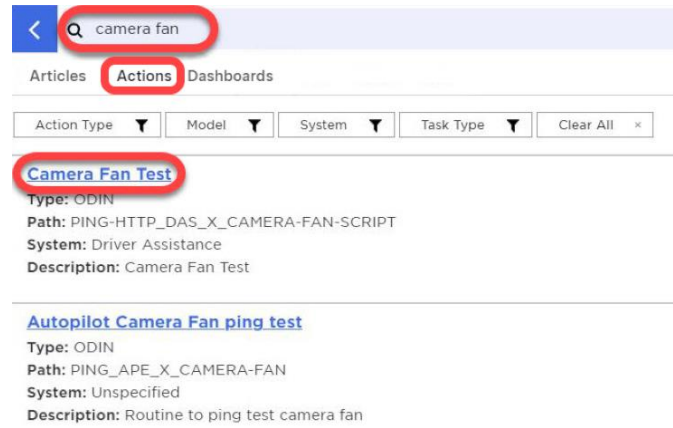

Figure 4
8. In the **Actions** section, search for and run the “Camera Fan Test” routine (Figure 4).